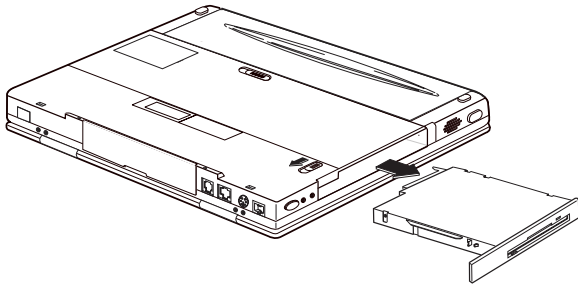

Figure 5-3. Removing the CD/FDD Module
1. Press in on the CD-ROM/FDD module and slide the latch in the direction shown in (Figure 5-3).
2. Remove the CD-ROM/FDD Module (Figure 5-3).